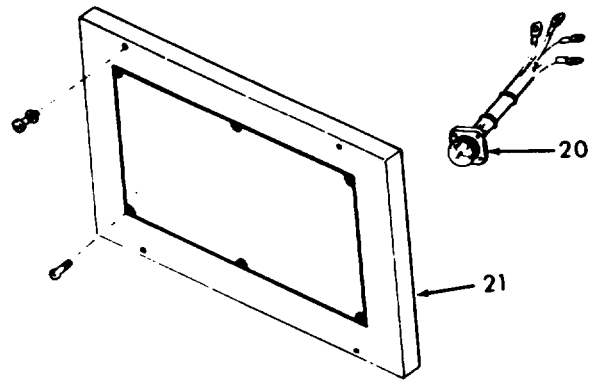

Figure 5-2. Junction Box Details
5.7. Description (See figure 5-2).
- b. Pull fuses (17 and 18, figure 5-2) out of fuse holders.
- b. Insert the end of the circuit breaker reset cable (8, figure 5-2) through the hole in the connector plate (7). Install core end fitting on end of cable, then attach the sheath of the cable to the junction box with two loop clamps (9) and screws, leaving at least 1/4-inch of cable sheath below the bottom loop clamp.